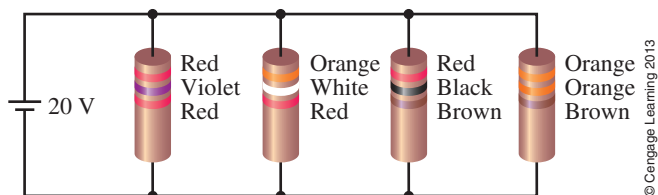

FIGURE 6–84
43. For the circuit of Figure 6–85, determine each of the indicated currents. If the circuit has a 15-A fuse as shown, is the current enough to cause the fuse to open?